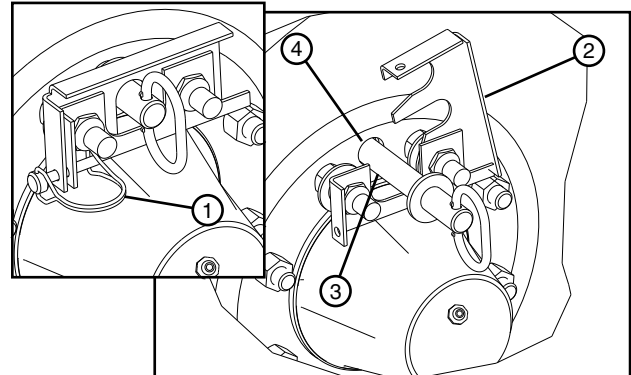

Figure 55-1 1. Lynch Pin 2. Retainer Clip 3. Torque Pin 4. Hub Torque Pin Receiver
5. Remove the torque pin from the hub torque pin receiver of both cart wheels. This will allow both wheels to rotate. See figure 55-1.